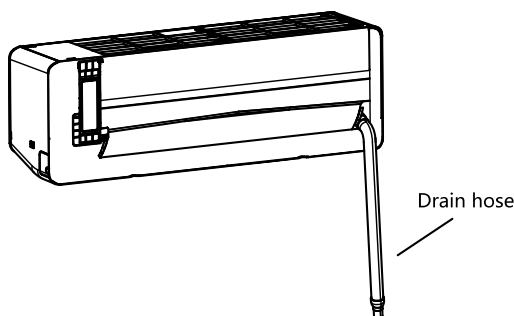

Fig.9
2. Connecting left back tube (similar to left lower tube). (Optional, Refer to Fig9)
Right chart is available for the position of drain hose, refer to Fig.9.